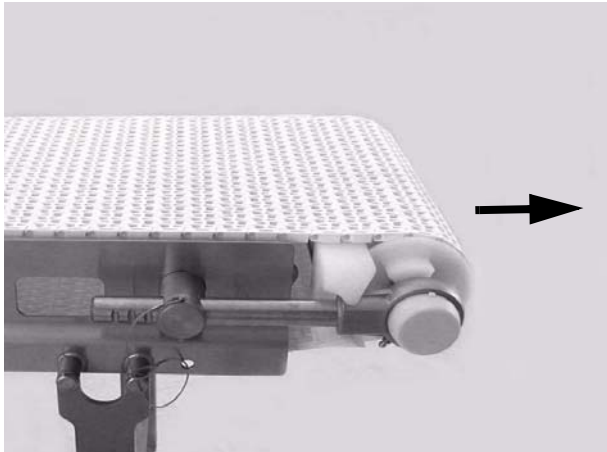

Figure 60
3. Continue extending the tension end until the belt is sufficiently tight (**Figure 60**).